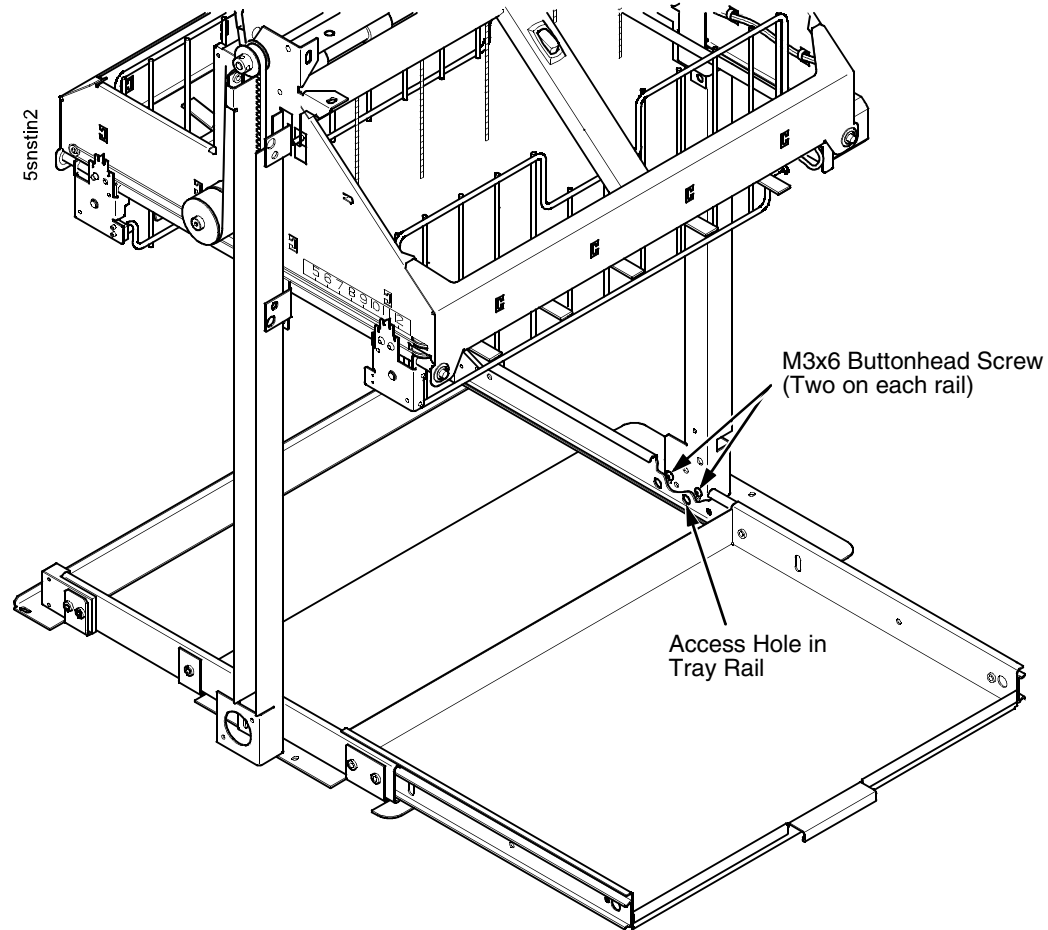

Figure 72. This figure shows how to loosen the lower screws in the vertical rails of the stacker.
10. Pull the paper tray out until the holes in the rails permit access to the M3 buttonhead screws. (Figure 72.)
11. Loosen one turn—do not remove—the M3x6 screws securing the vertical rails to the stacker base. Each rail is secured by two screws. (Figure 72.)
30. Pull the paper tray out until the holes in the rails permit access to the M3x6 screws. Tighten the M3 screws securing the vertical rails to the stacker base. Each rail is secured by two screws. (Figure 72.)